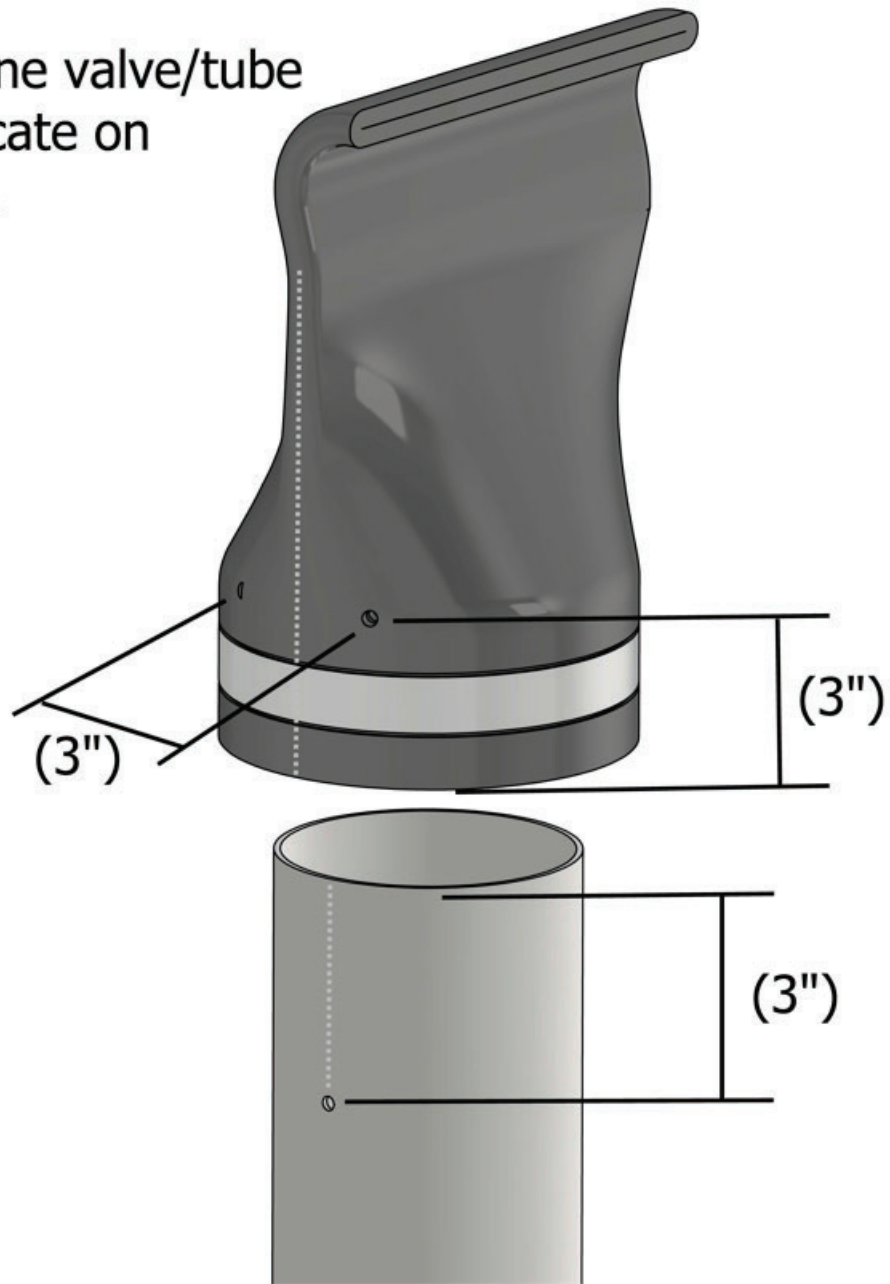

Figure 2
- (Option B-1)** Add holes as needed to create (4) #10 fastener holes to each valve and (2) #10 fastener holes to each fill tube. Refer to Figure 2 for ideal placement. The result is (12) total holes for the entire aircraft.
(Option B-2) Add (2) #10 fastener holes to each fill tube if none are already present. Replacement valve kit will have holes and studs pre-placed in the valve. Refer to Figure 2.